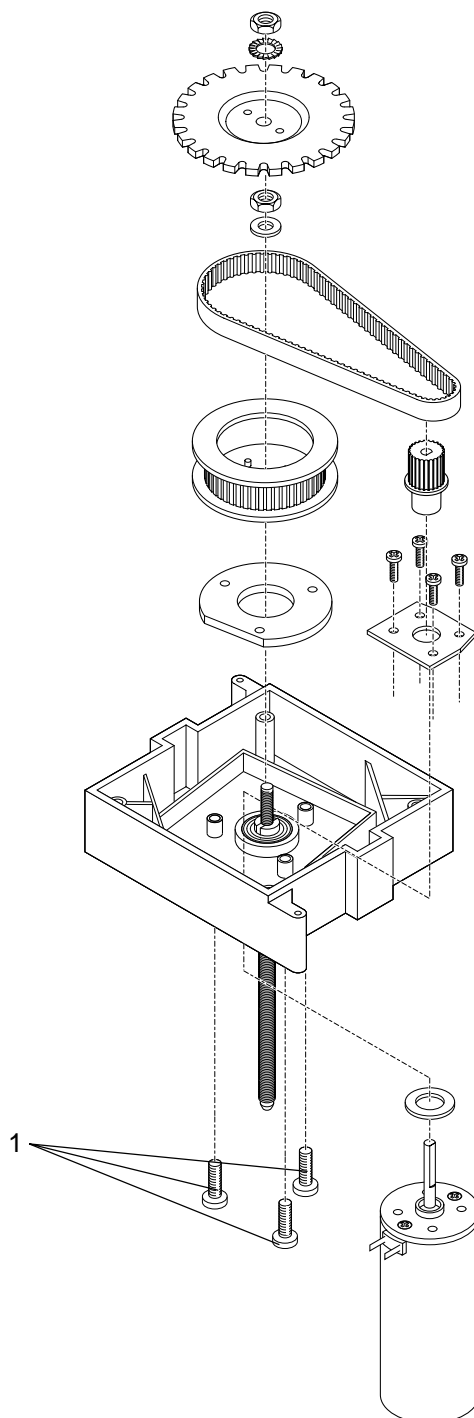

Fig. 1
new: **35217400 Screw M4x10mm (1) (Fig.1)**
- The screws A-0026 and the washers 09116005 will be replaced by the screws 35217400 (see Fig.1).